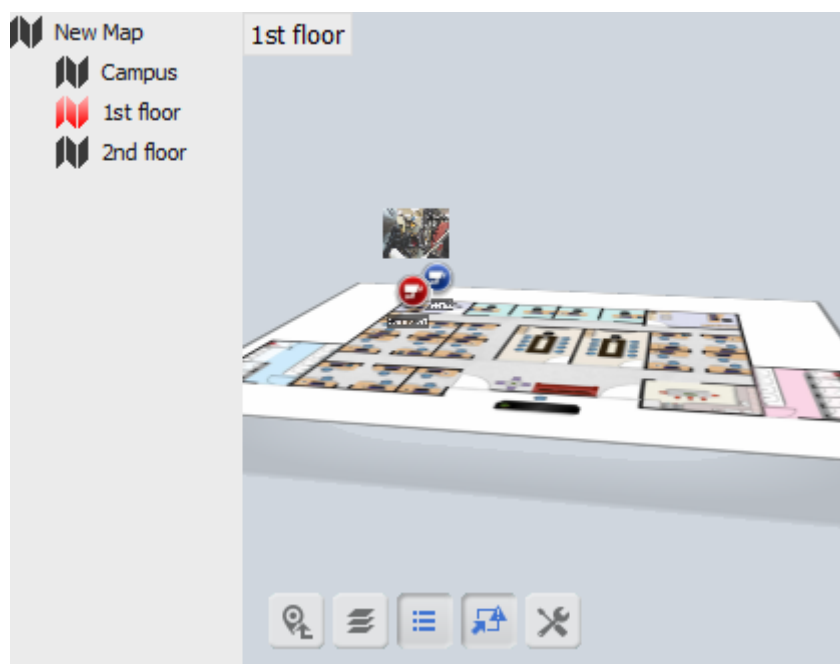

Figure 8-18
3. Click **OK**. The Remote E-Map window appears (Figure 8-18).